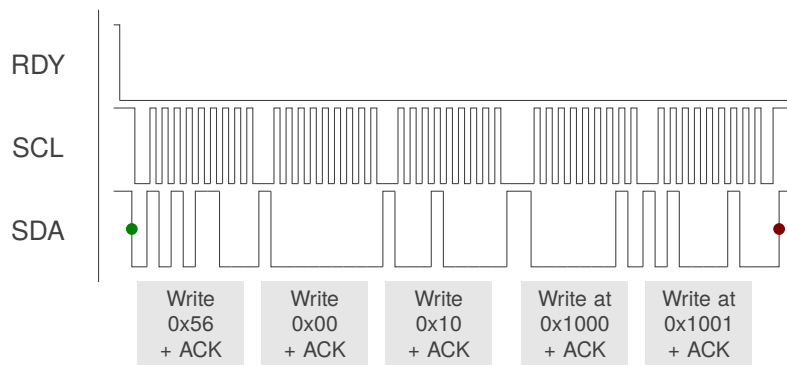

Figure 12.2: I2C Write Example — Write Two Bytes to System Control Registers 0x1000 and 0x1001
The write operation is displayed in Figure 12.2. Similar to the read transaction, when the RDY interrupt is triggered, the master initiates communication by sending a start condition followed by the device address and a write command. The IQS396 responds with an acknowledgement, after which the master device transmits two bytes defining the register address. The slave acknowledges the register address bytes. The master may then write a series of bytes to the register address and the addresses that follow, with each byte being acknowledged by the slave. The write operation is ended when the master produces a stop condition.
- > Write the new values back over I2C, as shown in Figure 12.2.